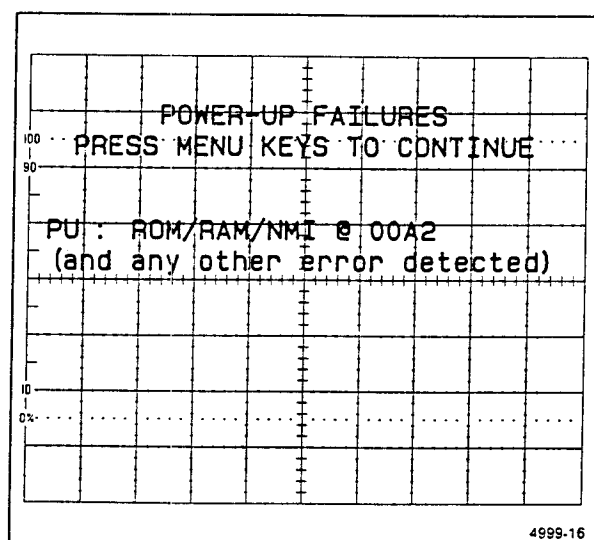

Figure 6-6. PU error display.
2. If possible, display error message on the crt (see Figure 6-6):